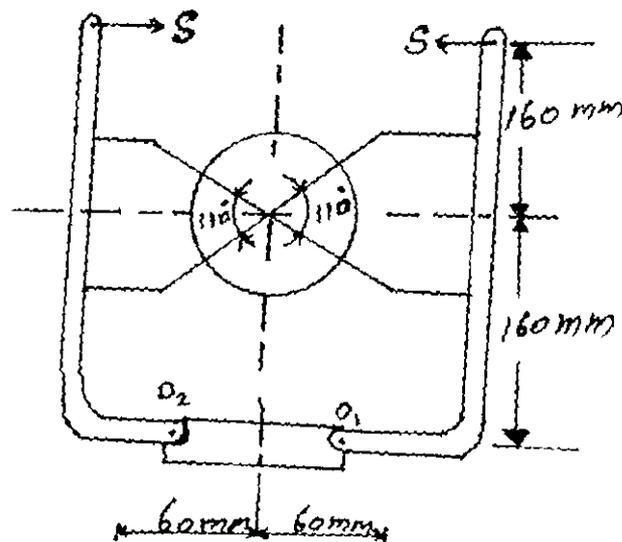

Fig. 2
- (b) The layout of a double block brake is shown in Fig. 2. The brake is rated at 250 N-m at 650 r.p.m. The drum diameter is 250 mm. Assuming coefficient of friction to be 0.3 and for conditions of service a pV value of 1000 (kPa) m/s may be assumed.